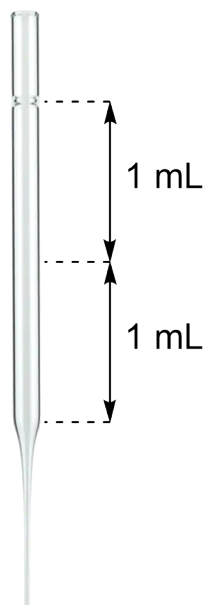

Figure 2: Pasteur pipette with approximate volume indications (scale 1:2)
- With the flask still in the ice-water bath, slowly **add** NaHSO₃ solution (aq, 40%) (ca. 5 mL from the vial "**NaHSO₃ (aq)**"; 1 mL corresponds to ½ Pasteur pipette, see Figure 2) with a Pasteur pipette. **Keep** stirring. A white precipitate (product A) will form.